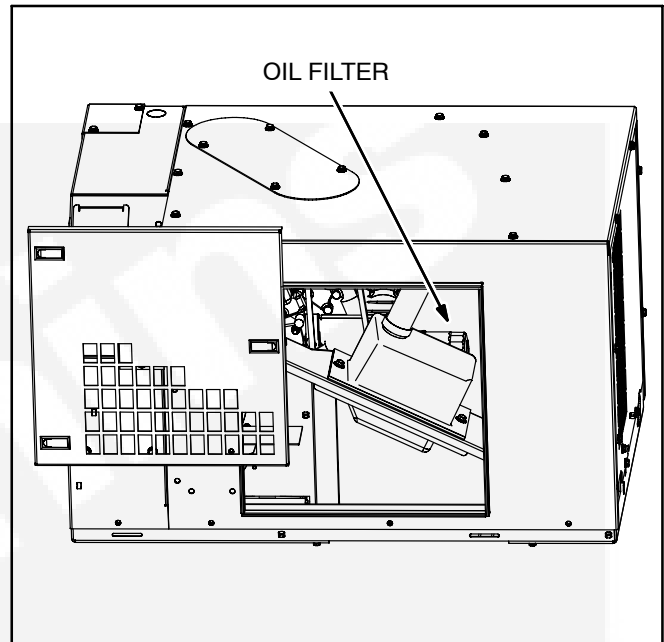

FIGURE 7. OIL FILTER ACCESS THROUGH FRONT
3. Remove the front and bottom access covers (Figures 7 and 8) and direct the end of the drain hose into a container.